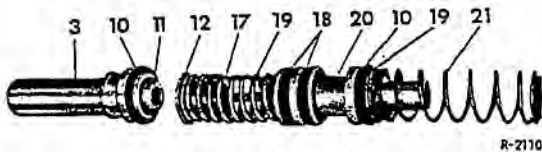

Fig. 42-3a/22
- Screw the connecting screw (14) into the intermediate piston (20) together with the piston stop washer (13), the pressure spring (17) and the spring retainer (12) (Figs. 42-3a/20 and 22).
**Note:** Do not leave out the piston stop washer (13) which is a stroke limitation for the piston of the push rod circuit (Fig. 42-3a/17).